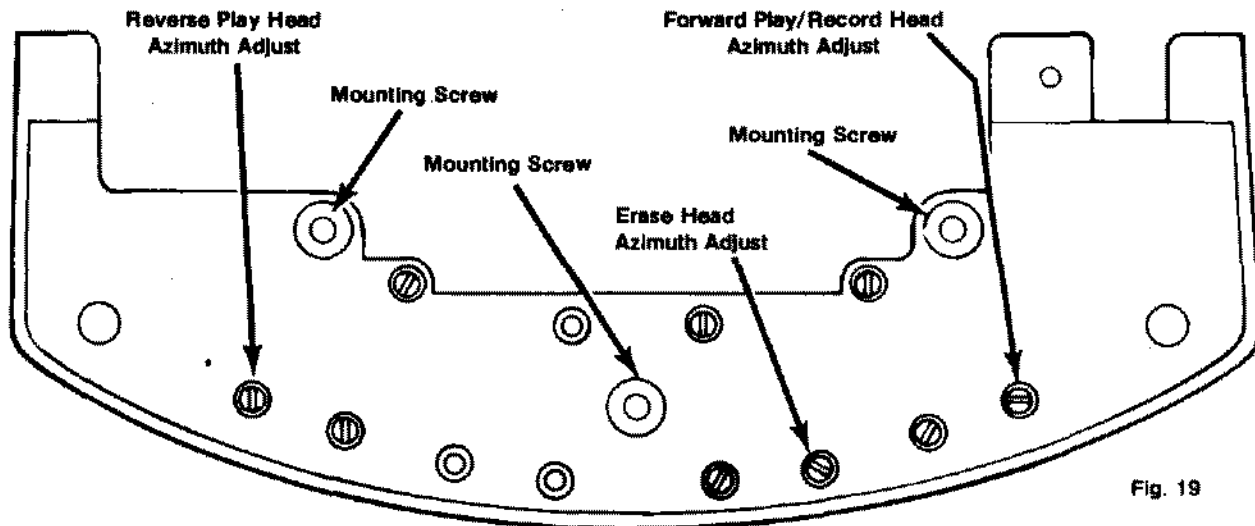

Fig. 19
2. Remove the head bridge assembly by removing the three mounting screws. See Figure 19.